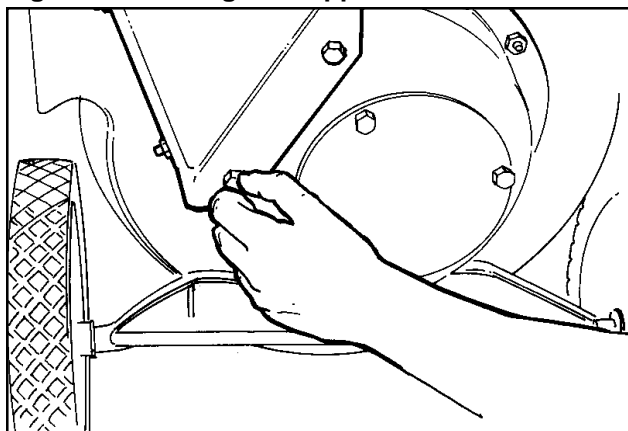
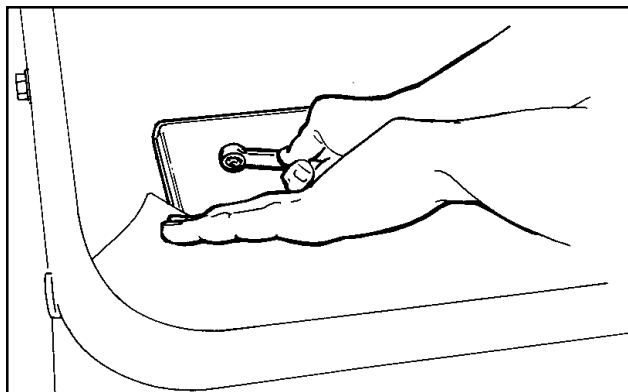

Figure 3. Attaching Hopper to the Rotor
Figure 4. Installing Hardware Inside Hopper
1. See Figure 3. Attach the hopper to the rotor housing, using care to engage the metal lip of the hopper liner to the inside of the housing.
2. Secure the hopper to the rotor housing using (2) 5/16 x 1/2 hex head bolts and (2) 5/16 flat washers. Do not tighten hardware at this time.
3. See Figure 4. From the inside of the hopper, install (1) 5/16-18 x 3/4 hex head bolt, 5/16 lockwasher, and 5/16 flat washer into each of the upper and lower holes of the metal hopper liner. Do not tighten at this time.